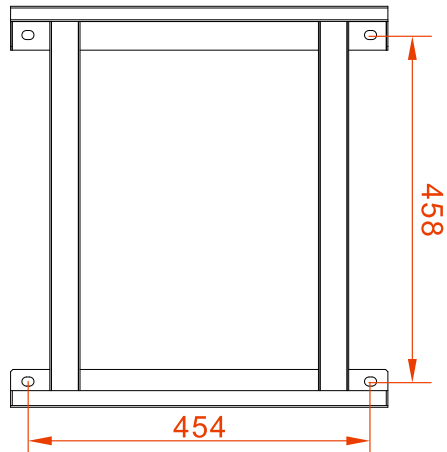

Figure3-3 The dimensions of installation holes of installation holder(Unit: mm)
The inverter can be installed on the wall or metal holder through equipped installation holder, the dimensions of installation holes of the installation holder is as shown in Figure3-3.
- Step 2 According to the dimensions of installation holes of installation holder(as shown in Figure3-3), mark the position of installation holes on the wall. Drill holes on the wall vertically by hammer drilling according to the marked position.